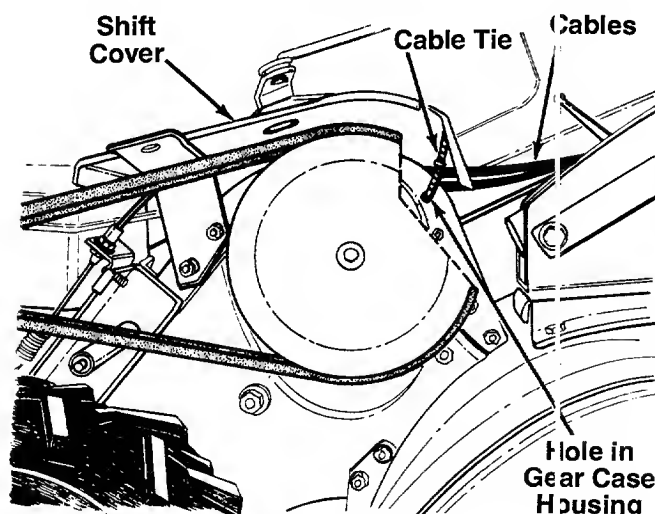

FIGURE 11.
24. Secure the drive cable and the throttle control cable to the top of the gear case housing (underneath the shift cover) using one of the cable ties (D) provided, keeping the cables away from the pulley. See figure 11. Cut off excess end of cable tie.